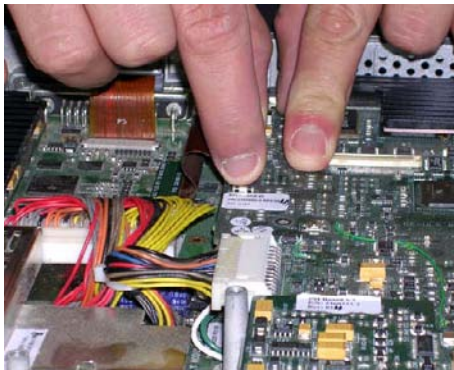

Figure 8-27 Disconnecting the PCI Cable from the RFI Board
- 4) Disconnect the PCI cable flex (BEP-to-RFI) from the cable connector on RFI Board as shown in Figure 8-27 below.
- 5.) Reconnect the PCI cable flex (BEP-to-RFI) to the cable connector on RFI Board (see Figure 8-27 on page 8-28).